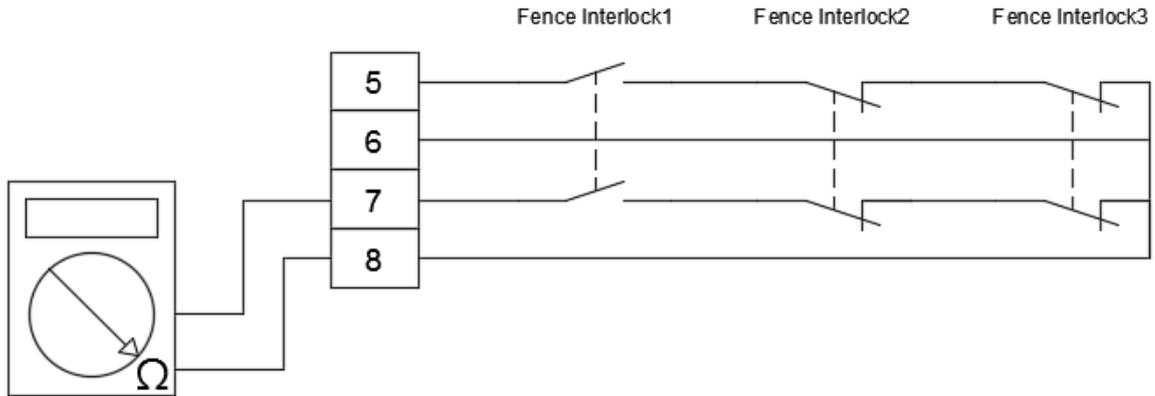

Figure 8.22 Turn on fence safety signal and measure Pin 7 and Pin 8
- Measure Pin 7 and Pin 8 of the safety connector; the reading on the multimeter must be ∞ , as shown in Figure 8.22 below.